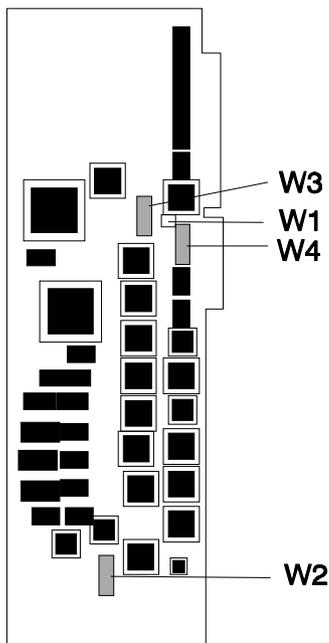

Figure 5. Position of jumper and dip switches
If the computer is IBM compatible in regards to the bus master transfers, remove jumper W1. To locate its position on the card, refer to figure 5.
2. Select the Input/Output base address of the adapter by setting the dip switches No. 1, 2 and 3 of bank W2 (refer to figure 5). Use the table below to specify the base address.
4. Select the DMA channel for the adapter by setting the switches 1 to 8 on the dip switches on bank W3 (refer to figure 5); refer to the table below.